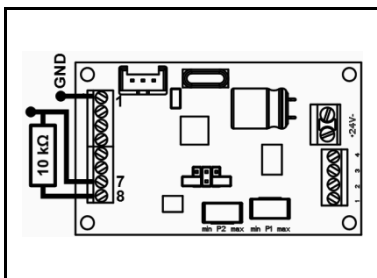

Fig. 20: Open collector alarm
- ➔ In order to generate a voltage signal (10 V / GND), connect a 10 kΩ resistance between COM7 and COM8 (cf. Fig. 20).